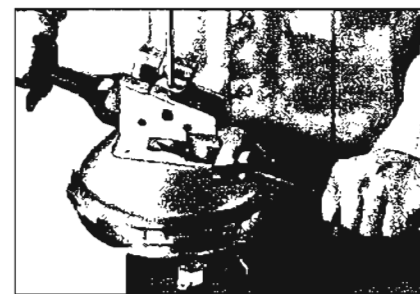

Figure 9-19—Power Brake Unit Positioned in a Vise
2. With the master cylinder reservoir unit firmly clamped in a vise, place two adjustable wrenches of at least 10" in length, so that each wrench will grip on a bracket. Rotate the housings counterclockwise into the unlocked position. See Figure 9-19.